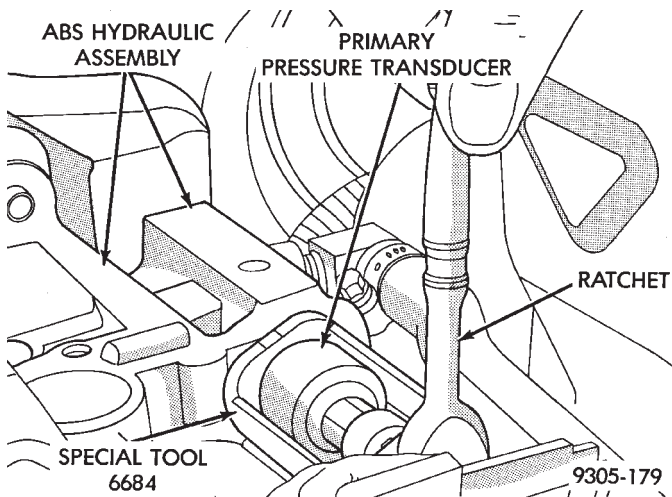

Fig. 11 Primary Pressure Transducer Removal And Replacement
(9) Using Socket, Special Tool 6684 loosen and remove primary pressure transducer from hydraulic assembly (Fig. 11)